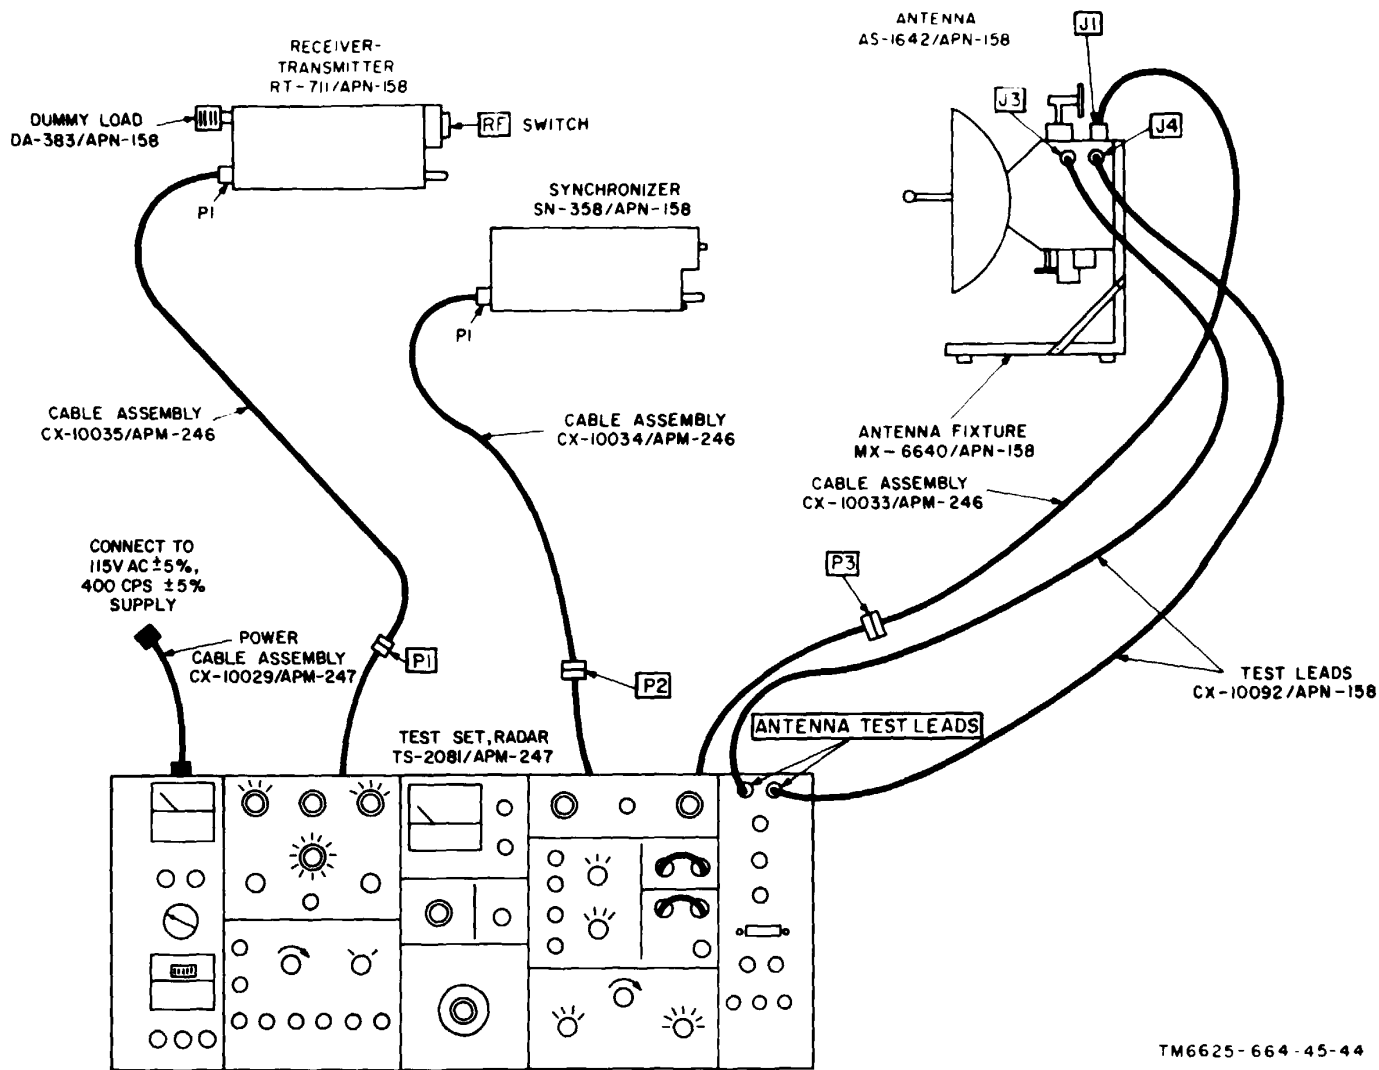

Figure 4-8. Elevation sync, trim adjustment, sweep excitation resolver tune, pitch, and roll test connection diagram,
- b. *Test Connections and Conditions.* Connect the test equipment as shown in figure 4-8.